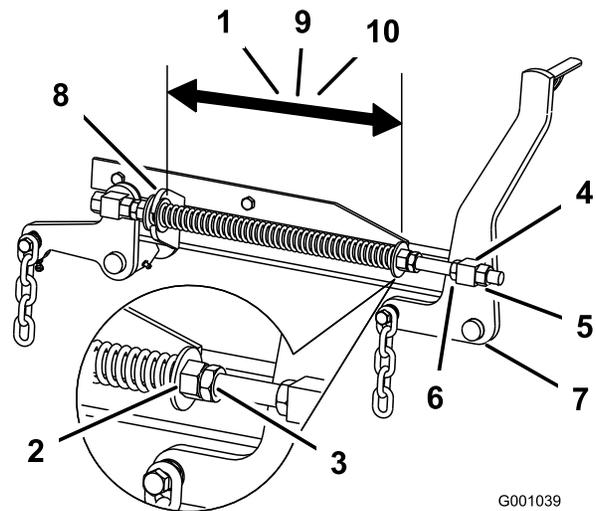

Figure 106
2. Check the distance between the 2 large washers, it needs to be 28.2 cm (11-1/8 inches) for 52 inch mower decks, 26.7 cm (10-1/2 inches) for 60 inch mower decks, or 29.2 cm (11-1/2 inches) for 72 inch mower decks (Figure 106).
3. Adjust this distance, by loosening the spring-jam nut and turning the nut in front of each spring (Figure 106).
4. Lock the nut into position by tightening the spring-jam nut (Figure 106).